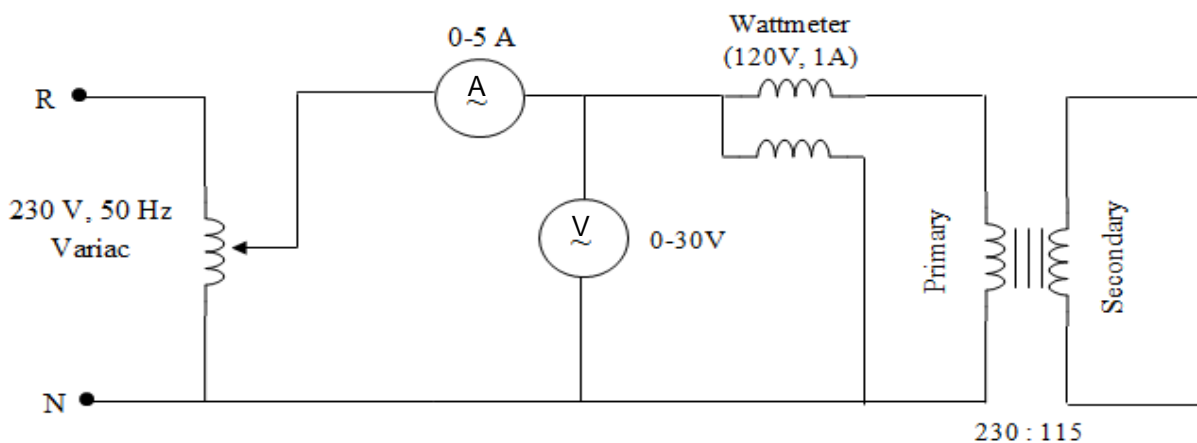

Figure 05: Short Circuit Test Circuit Diagram
1. Connect the circuit as shown in Figure 05.